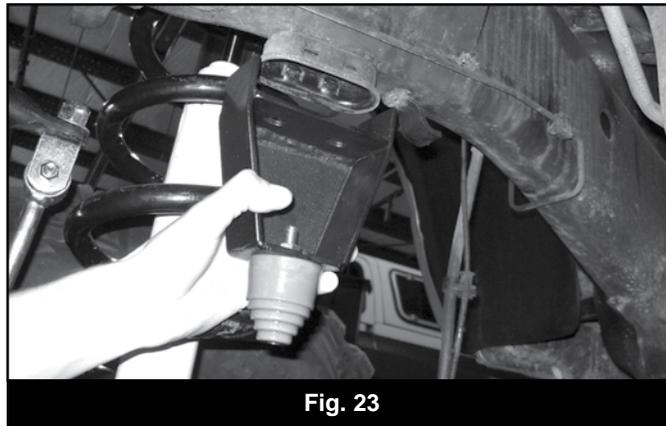

Fig. 23
53. Install the bumpstop assembly onto the frame with new 3/8" x 2" bolts and washers with loc-tite on the threads. Tighten to 35 ft-lbs. (Fig 23)